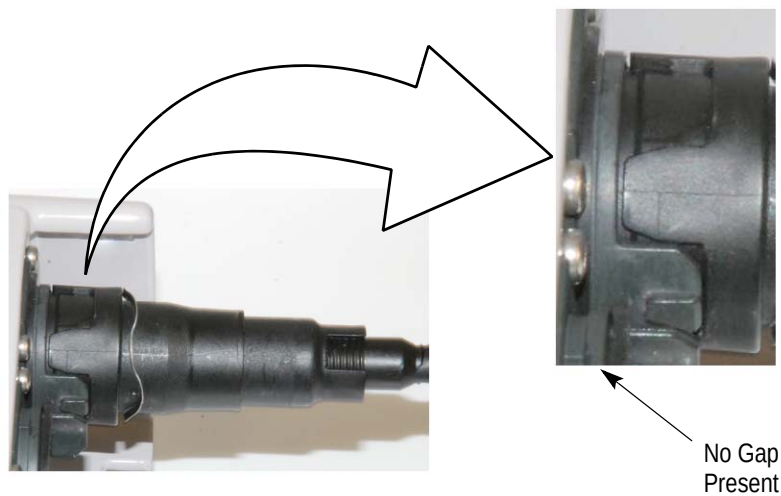

Figure 10
5. Make sure that no gap is present between the inner housing and mounting flange. See Figure 10.